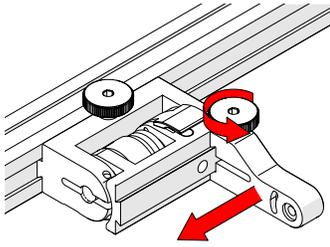

Fig. 119 - Position swing arm
5. Loosen the swing arm knob and slide the swing arm to the opposite end of the probe holder bracket (Fig. 119) or preferred position. Tighten the swing arm knob.